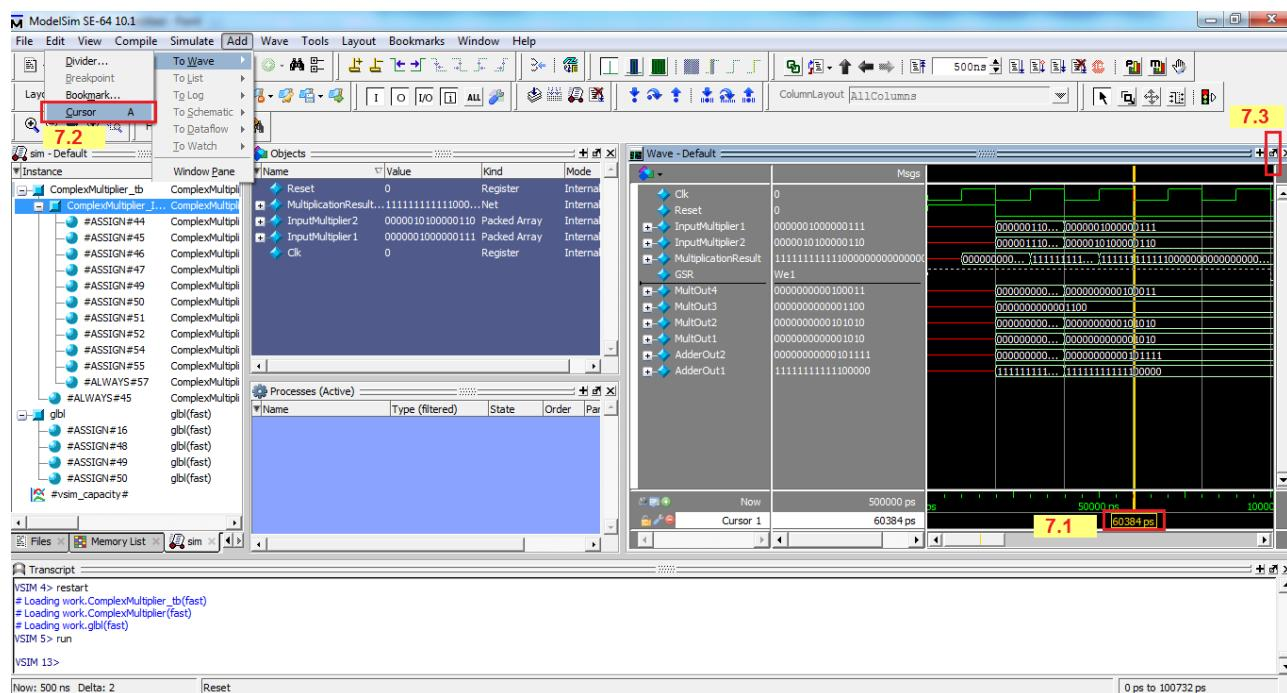

Figure 13.
7. Simulation Result Analysis (Figure 13)